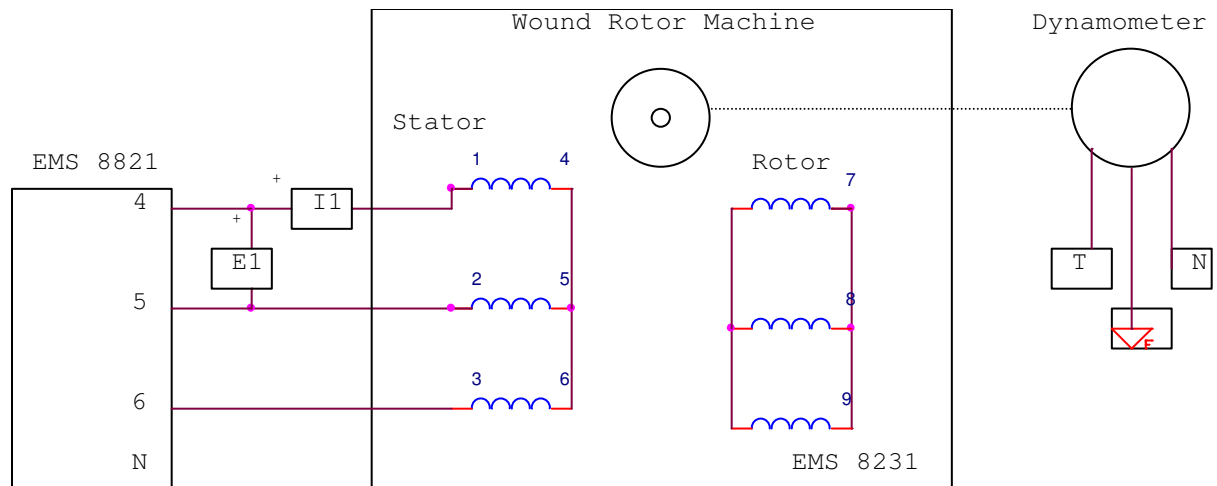

Figure 2: Part Two and Three Induction Motor Speed vs. Torque
11. Ensure the Power Supply is turned off. Construct the circuit of Figure 2 be sure to connect the T, N, and G connections of the P.M. module to the D.A.I. module. Note that the stator windings are now connected in a wye, and all rotor windings are shorted.
- DISPLAY switch.....TORQUE (T)
22. Verify construction of the induction motor circuit of Figure 2.